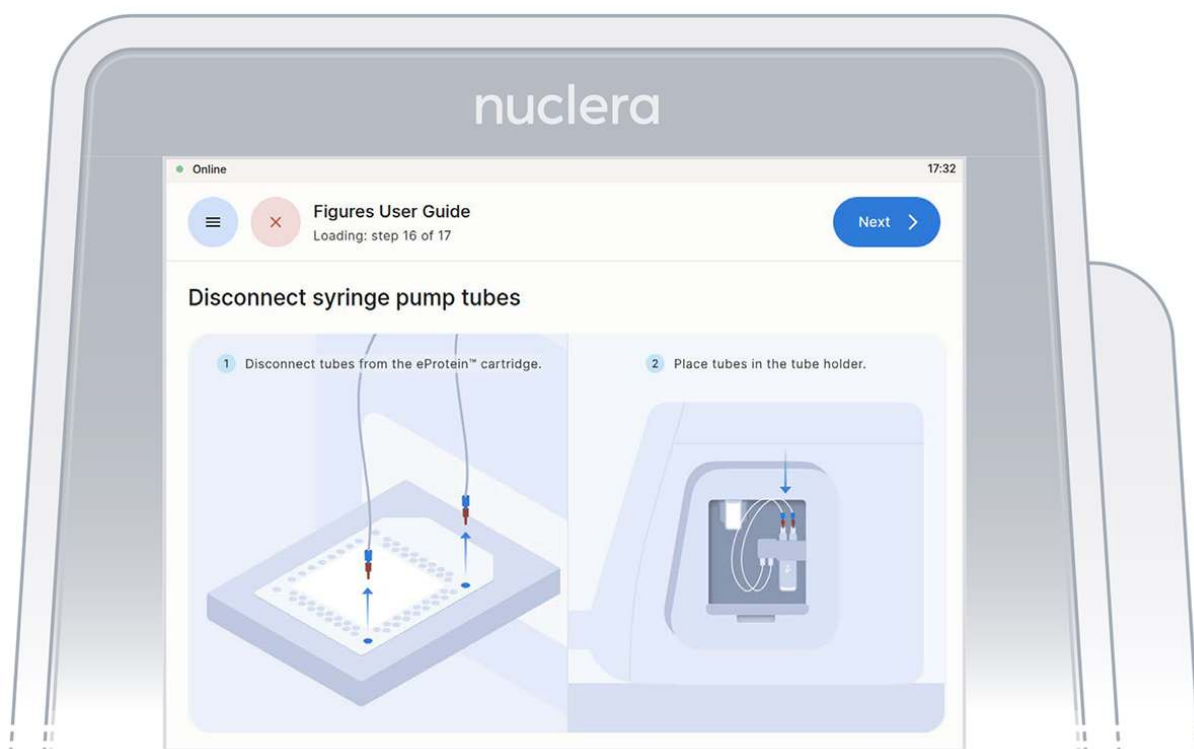

Figure 25: Disconnect the tubes and place them on the tube holder
2. Disconnect the tubes from the cartridge and place them in the tube holder on the right hand side of the instrument. Press the [Next] button on the screen (Figure 25), and the drawer will close. Quality controls will be performed. The experiment will start.